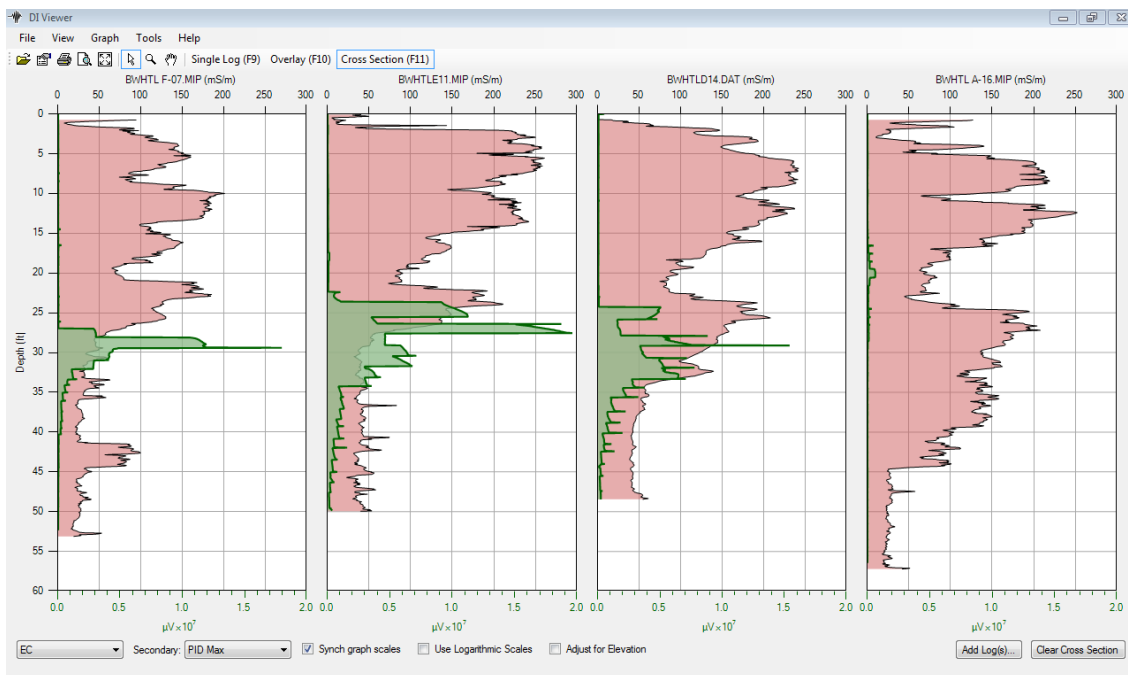

Figure 11: A Cross Section of four MIP logs. Electrical conductivity is shown in red while the PID detector Response is shown in green.
3. Select different graphs to overlay by choosing the appropriate graphs under primary and secondary series in the lower left of the screen (Figure 11).
When multiple logs are initially opened in the cross section display, they typically will auto scale to the maximum value of each opened data series. In auto scale, a log with little contaminant may look similar to one with ten times the contaminant. To ensure a clear perspective of relative amount of contaminant present across the site, check the box *Synch graph scales* in the lower left corner of the screen just to the right of the secondary series dropdown tab (Figure 11).